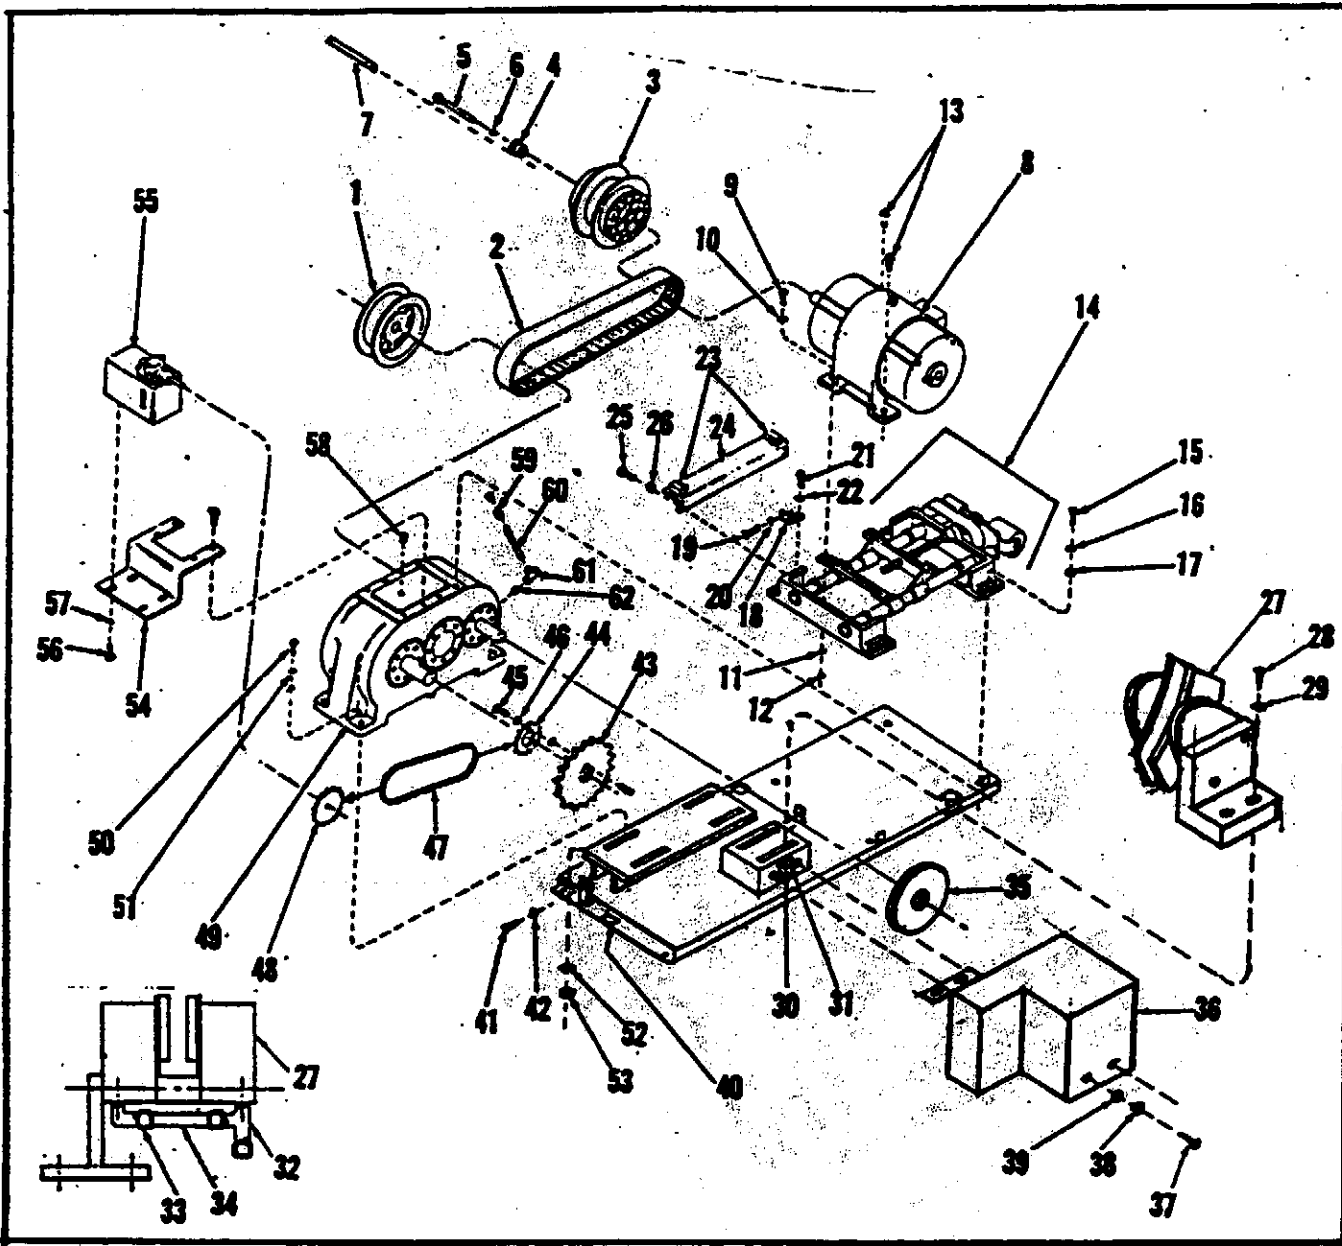

Figure B-3. Drive Application, 60cy/7-1/2hp
1. BIJUR LUBRICATION SPROCKET(See figures B-3,B-4,B-5 items 48,52 and 51.)
4. SPEED REDUCER INPUT SHEAVE(See figures B-3,B-4 and B-5 item 1.)
5. DRIVE BELT(See figures B-3,B-4 and B-5 item 2.)
6. VARI SPEED SHEAVE(See figures B-3,B-4 and B-5 item 3.)
7. IRONER DRIVE MOTOR(See figures B-3,B-4 and B-5 items 8,7 and 7.)
10. DISC BRAKE CALIPER, BRAKE DISC,AND BRAKE BRACKET (See figures B-3, B-4 and B-5.)
11. MAIN DRIVE SPROCKET(See figures B-3,B-4 and B-5 items 43,47 and 45.)
12. BIJUR DRIVE SPROCKET(connected to Bijur Lubricator drive sprocket by chain)(See figures B-3,B-4 and B-5 items 44,48 and 46.)
1. BIJUR LUBRICATOR DRIVE SPROCKET(See figures B-3,B-4, and B-5.)
9. IRONER DRIVE MOTOR(See figures B-3,B-4 and B-5, items 8,7 and 7.)
10. DISC BRAKE CALIPER AND BRAKE DISC(See figures B-3,B-4 and B-5.)
11. MAIN DRIVE SPROCKET(connected to ironer drive system by chain)(See figures B-3,B-4 and B-5 items 43,47 and 45.)
12. BIJUR DRIVE SROCKET(connected to Bijur Lubricator drive sprocket by chain)(See figures B-3,B-4 and B-5 items 44.48 and 46.)